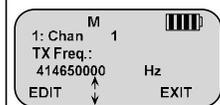

Figure 7
8. **TX Frequency:** Press the "Edit" softkey to edit the TX Frequency. Press the "C" key several times to clear the frequency and enter the new TX Frequency and press the "OK" softkey. (See Figure 7)